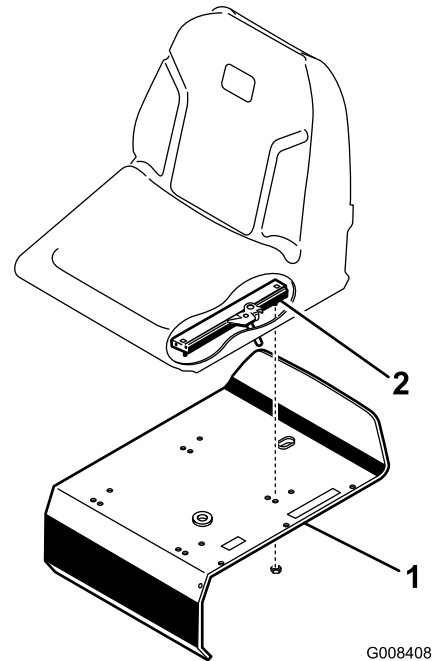

Figure 3
3. Secure the seat slides to the seat support with the locknuts (5/16 inches) (Figure 3) supplied in the loose parts.